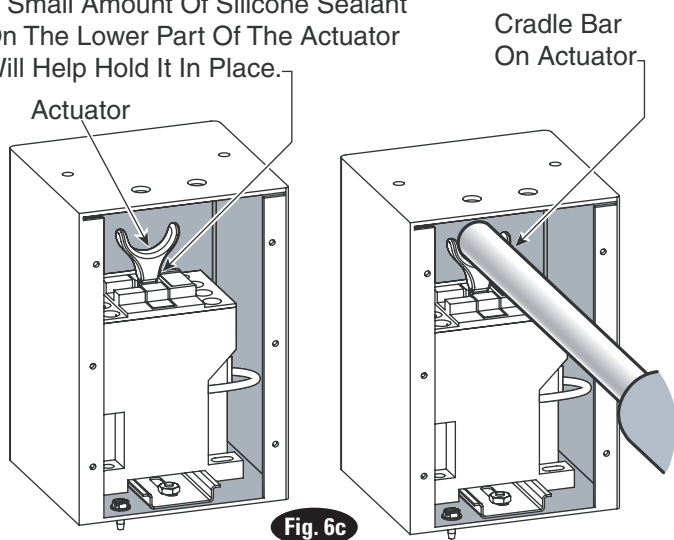
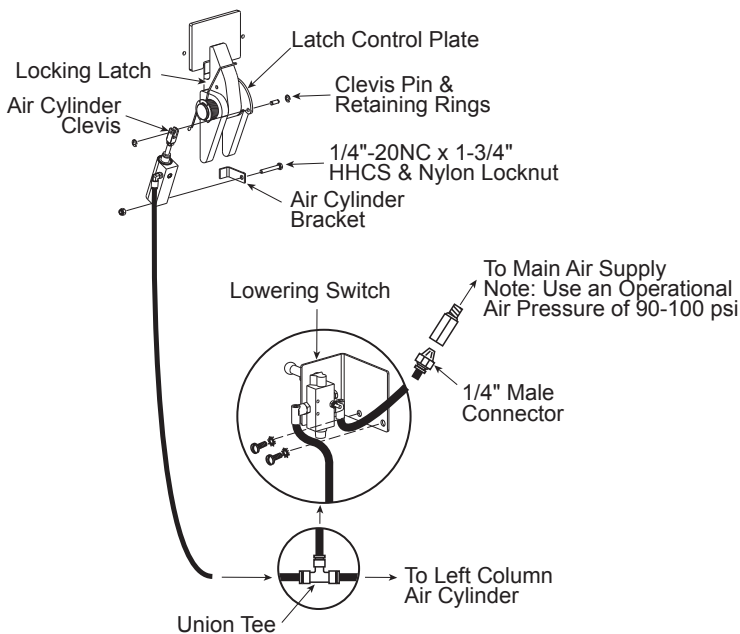

Fig. 6c
Fig. 12
For three phase lifts: Remove Limit Switch cover, Fig. 6b. Insert Actuator end of Switch Bar into slot located inside Limit Switch, Fig. 6c. A small amount of silicone sealant on the lower part of the actuator will help hold it in place. Insert 1/4"-20NC x 2-3/4" HHCS through pivot hole in end of Switch Bar. NOTE which hole to use, Fig. 12. Then secure HHCS and Switch Bar to overhead as shown, using (2) 3/4" spacers and 1/4"-20NC Locknut. Tighten Hex bolt leaving 1/16" gap between the spacer and the overhead assembly, Fig. 4. Replace limit switch cover.
- A)** To install cylinder, first slip dampening spacer over rod with rod in retracted position as shown below, Fig. 12.
- D)** Screw Bracket Clevis onto shaft, position, and tighten locknut securely, Fig. 12.
- H)** Slide one side of lower Pivot Pin (pre-installed & fixed in cylinder) into one half of the column Pivot Bracket. Install Pivot Bracket into column using (2) 1/4"-20NC x 3/8" lg. PHMS, Fig. 12.
- L)** Mount lowering valve and bracket to column using (2) 5/16"-18NC x 3/8" lg. PHMS, Fig. 12.